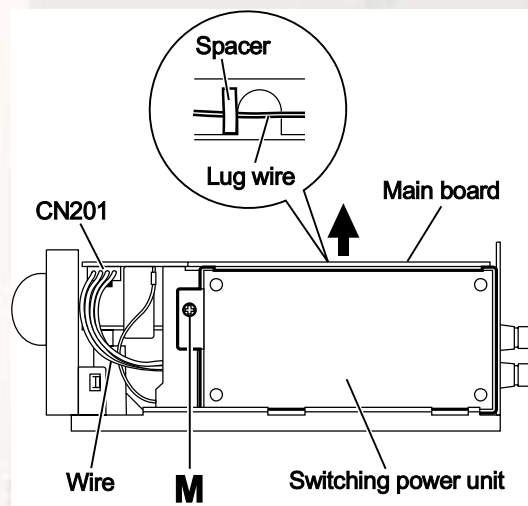

Fig.10
- (2) From the right side of the main body, disconnect the wire from the connector **CN201** on the main board. (See Fig.10.)
- (3) Remove the screw **M** attaching the switching power unit. (See Fig.10.)
- (4) From the top side of the switching power unit, remove the spacer fixing the lug wire. (See Fig.10.)
- (5) Take out the switching power unit from the main body in the direction of the arrow. (See Fig.10.)